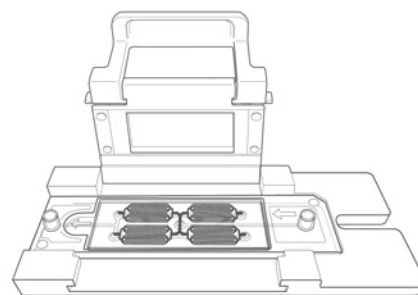

Fig. 23. Celselect Slide label-side up.
2. Place the Celselect Slide label-side up and to the left on top of the Manifold, aligning the ports of the Celselect Slide within the five overmolded O-rings on the Manifold (Figure 23).